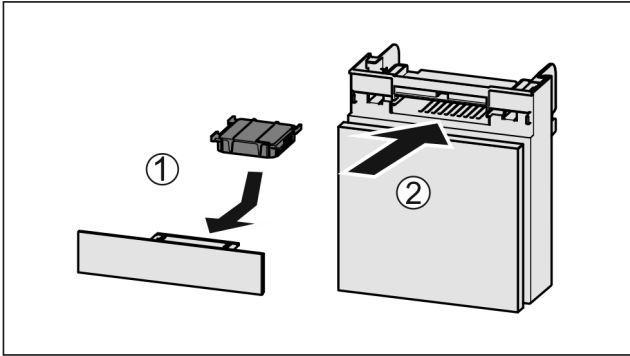

Fig. 183
- ▶ Insert the carbon filter as shown in the diagram Fig. 183 (1).
- ▶ Push the compartment in Fig. 183 (2).